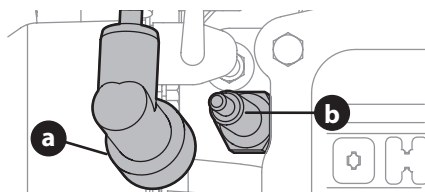

Figure 10
- Remove the spark plug boot (a) and use a spark plug wrench to remove the spark plug (b) (Figure 10).